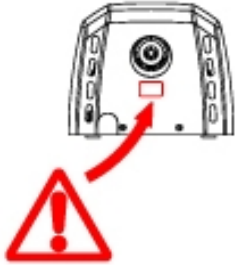

Figure 11.
- During this process of fitting the casing to the base take care not to damage the electronic circuit that is below the hand dryer's nozzle (Figure 11).